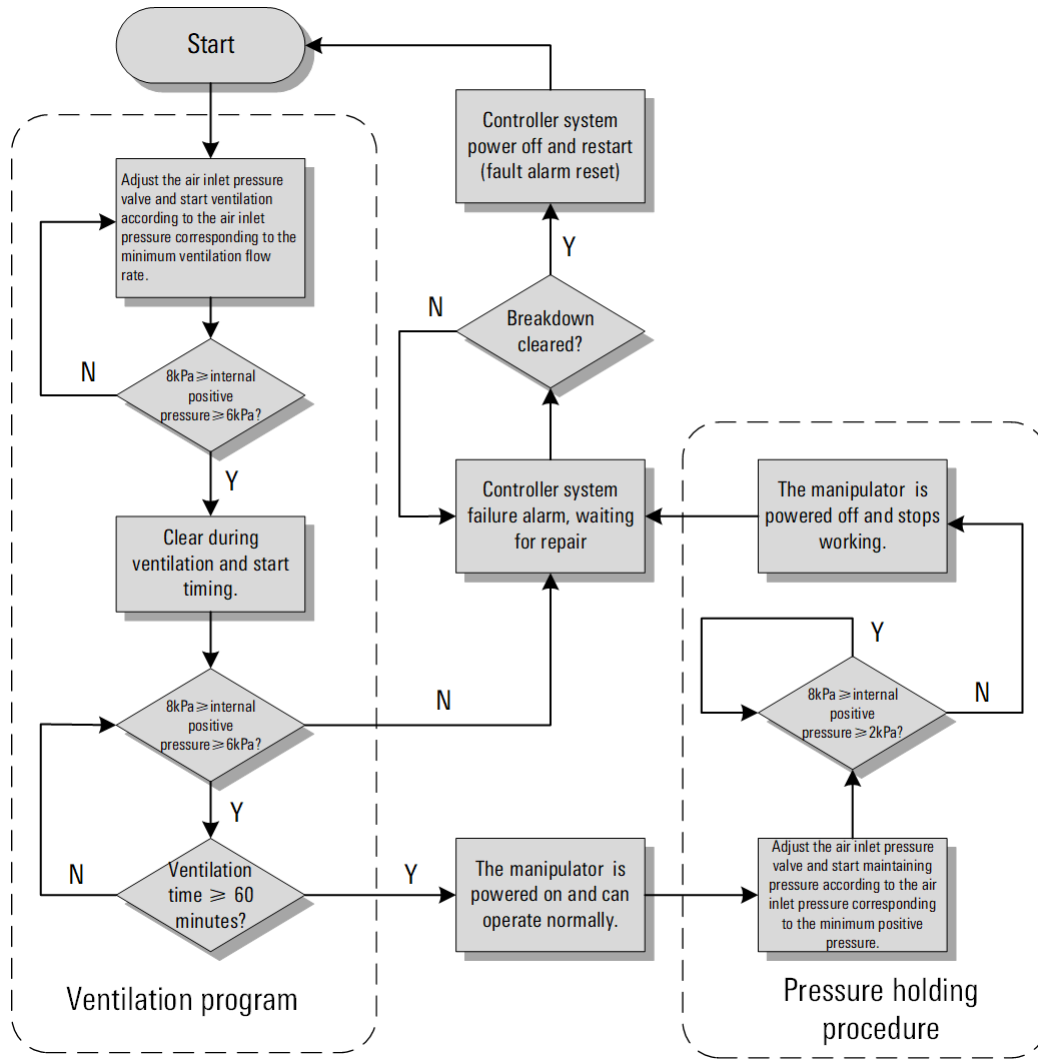

Figure 5-5 Run flow chart
In order to ensure the explosion-proof performance and safe operation of the robot, when: ① When using the robot for the first time, ② After a power outage due to abnormal pressure inside the robot, ③ After the robot cover is removed for maintenance and inspection, the internal cavity of the robot must be fully inspected. Only after ventilation is maintained and the specified positive pressure is maintained, the controller system is allowed to power on the manipulator. The operation process of robot ventilation and maintaining positive pressure is shown in Figure 5-5.